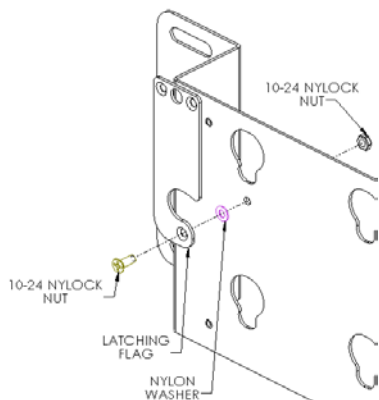

Figure 2
2. Attach latching flag to mount using the 10-24 screw, Nylon washer, and Nylock nut (see Figure 2). Tighten until friction will hold the flag in place.